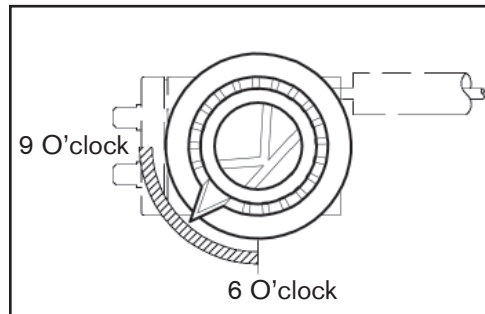

Figure 2
12. For the following Griddle thermostat, use Figure 2: